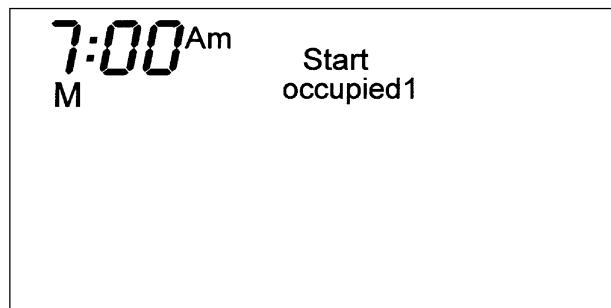

Fig. 5 — Start Time Display
1. Enter programming mode by pressing the Mode and UP ARROW buttons at the same time. The Occupied 1 annunciator will appear on the thermostat display. See Fig. 5. Use the UP ARROW and DOWN ARROW buttons to set the maximum number of Occupied periods available. The thermostat can be set to 1, 2, or 3. After the number of Occupied periods has been selected, press the Mode button.
7. The Start Time for Occupied 1 will be displayed. Use the UP ARROW and DOWN ARROW buttons to raise or lower the time until the desired Start Time is shown. Press the Mode button to continue. See Fig. 5.